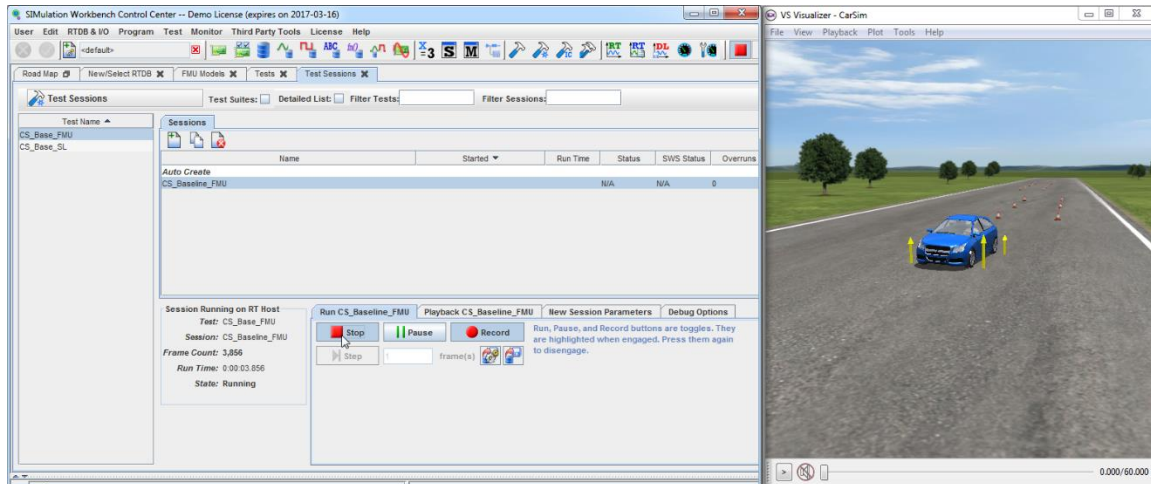

Figure 30. Run the Baseline FMU simulation.
2. Go back to the Simulation Workbench Control Center and press the **Play** button to run the simulation (Figure 30).